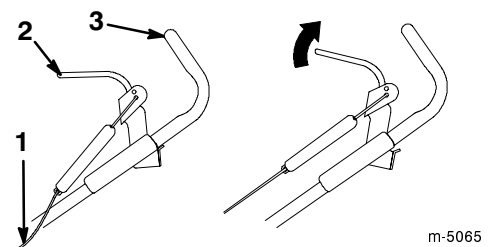

Figure 9
2. Move the left side of the control bar back toward the handle until you remove the slack in the cable (Fig. 9).